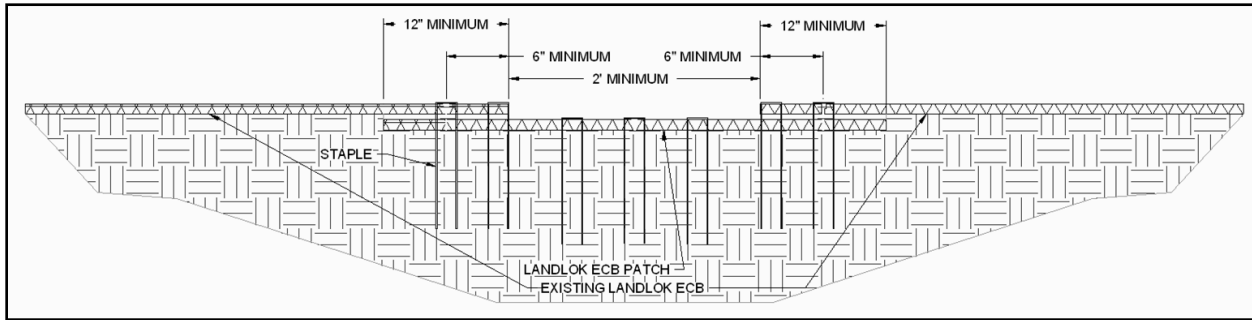
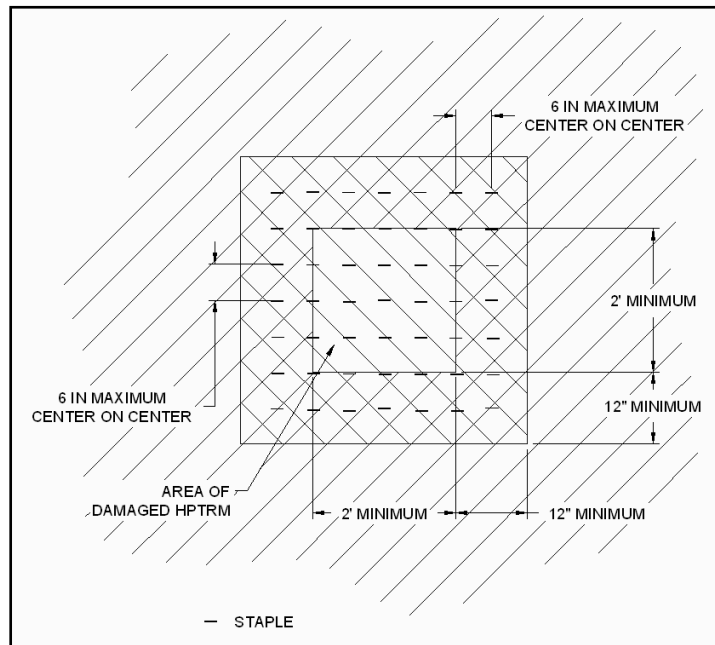

Figure 11: LANDLOK ECB Patch Cross Section
Figure 12: LANDLOK ECB Patch Plan View
- A. *Acceptable* (A) - The rated area is in satisfactory, acceptable condition, and will function as designed and intended during the rain event. LANDLOK ECB is installed tightly by maintaining direct contact to the slope surface with no rilling beneath. There is no noticeable damage present.
- B. *Minimally Acceptable* (M) - The rated area has a minor deficiency that needs to be corrected. The minor deficiency will not seriously impair the functioning of the area during the next rain event; however, the overall reliability of the project will be lowered because of the minor deficiency. Minimal erosion has occurred underneath LANDLOK ECB.
- C. *Unacceptable (U)* - The rated area is unsatisfactory. The deficiency is so serious that the area will not adequately function in the next rain event. LANDLOK ECB has been physically torn, ripped, or lifted from the slope surface. There is evidence that erosion is occurring beneath LANDLOK ECB.
3. To repair LANDLOK ECB, cut out and remove damaged areas in a square configuration a minimum size of 2 ft by 2 ft. Remove all vegetation and debris. Loosen the top 1 to 2 in of soil in the patch area then seed. The subgrade of area to be patched shall be prepared to be smooth and uniform and transition smoothly into the in-situ area. Cut a square LANDLOK ECB patch a minimum of 12 in greater than the damaged area for all four sides of the patch. Overlap the patch area in all directions a minimum of 12 in. The patch overlaps shall be tucked under the existing damaged LANDLOK ECB material (Figure 11 and Figure 12)